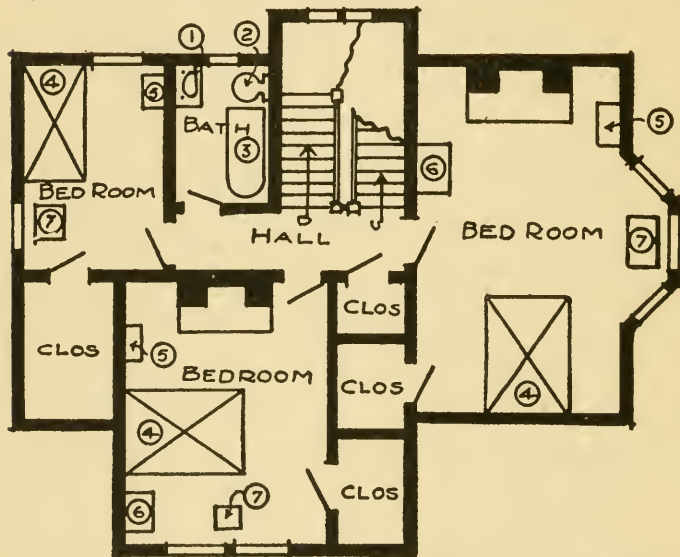
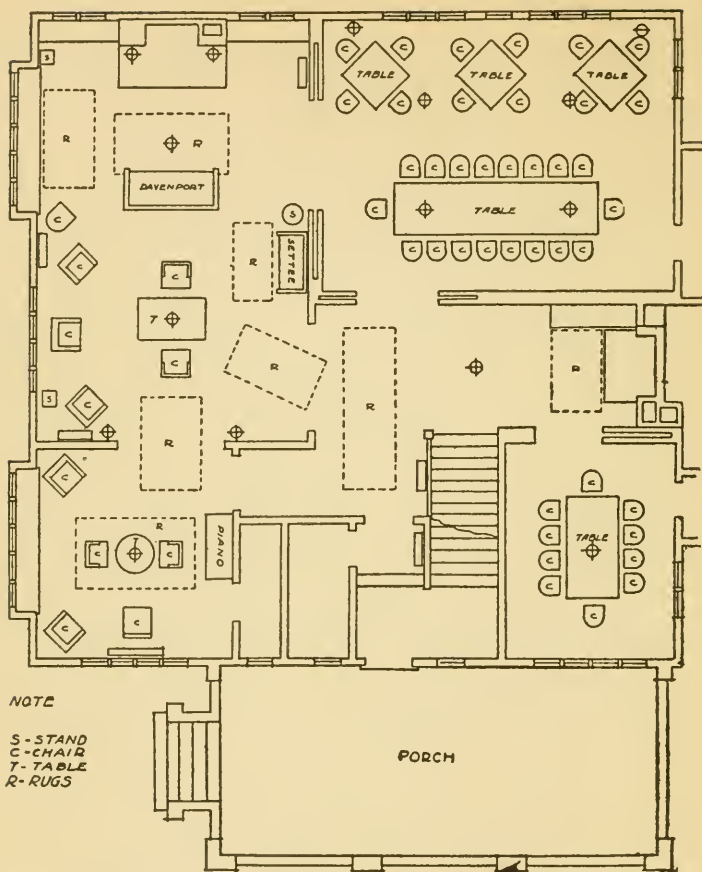

Fig. 19. Sketch Plan Showing Arrangement of Furniture.
Fig. 20. Plan Showing Method of Laying Out Furniture and Rugs.
small as practicable; therefore the furniture and fittings are laid out to make sure that there will be room to get them all in. This applies to the cheaper classes of houses, for in the larger and more expensive residences the rooms are always amply large to accommodate all the furniture and fittings desirable. In Fig. 19, a bathroom and bedrooms are laid out, the furniture being indicated by numbers, (1) representing the lavatory or wash-bowl, (2) the closet, (3) the bathtub, (4) the bed, (5) the chiffonier, (6) the dresser, and (7) a table or writing desk. See also Fig. 20.
Sometimes a client has furniture he wishes to put into a new home. It will be found very convenient to get the dimensions of such furniture, and cut out pieces of cardboard the exact sizes of this furniture according to the scale of the plan. Then lay them on the plan as drawn, and see how they will fit wall spaces, nooks, etc. By this method, pieces can be arranged, and it will very soon be shown whether or not the rooms will accommodate the furniture. This will be found very convenient in all classes of work (see Fig. 20).